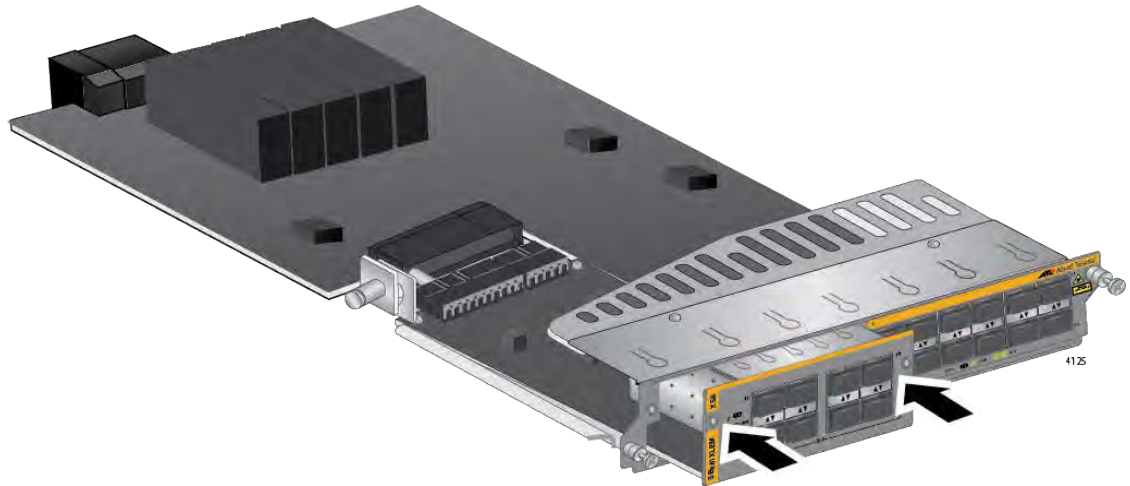

Figure 87. Seating the Expansion Module on the Connector in the AT-SBx81XLEM Line Card
9. When the expansion module makes contact with the connector inside the line card, gently press on both sides of the faceplate to seat the module on the connector. Refer to Figure 87 on page 159. The module is fully installed when its faceplate is flush against the faceplate of the AT-SBx81XLEM Line Card.